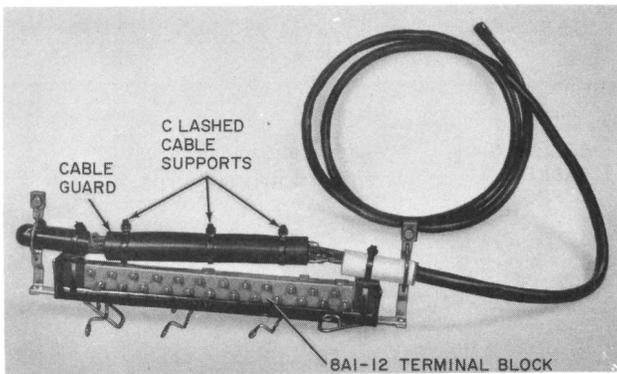

Fig. 5—Completed Splice—Fixed Count
(6) Where **fixed count** version is desired, place the cable guard over the entire splice as shown in Fig. 5. Secure with lashed cable supports furnished with the terminal.